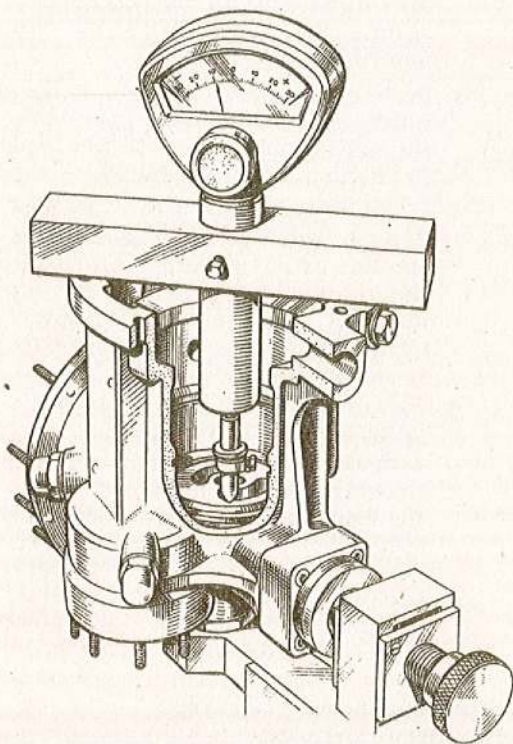

Fig. 17. Testing the port insert for parallelism to the pump housing flange
- Op. 5. Examine the port insert *in situ*, and test for parallelism with the pump housing flange using the test bar and clock gauge (fig. 17). *Remove the insert only if damage is suspected.* If the insert is removed, examine for cracks, pitting, etc., and the presence of foreign matter.